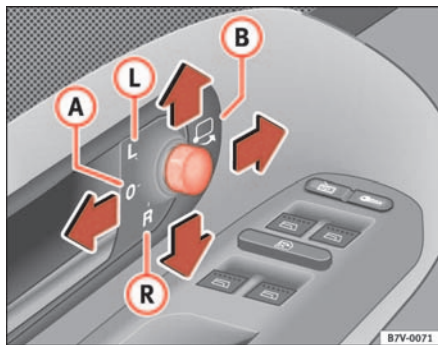

Fig. 83 Section of driver's door: rotary knob for the exterior mirrors
1. Turn knob ⇒ fig. 83 to position ① (left wing mirror).
3. Turn knob to position ② (right wing mirror).